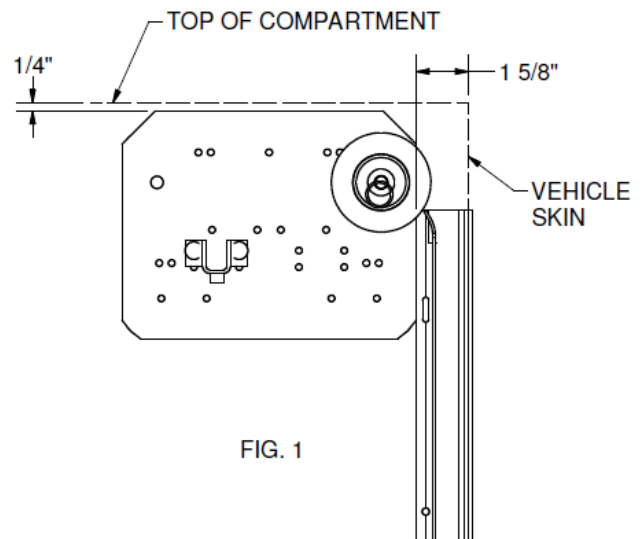

FIG. 1
- Looking into the compartment, place the pennant plate with right-hand pennant plate label in the top right of the compartment as shown in Fig. 1. Confirm it is flush with the top of the compartment and 1-5/8" from the vehicle skin. Match, drill the plate and track with an 11/64" drill